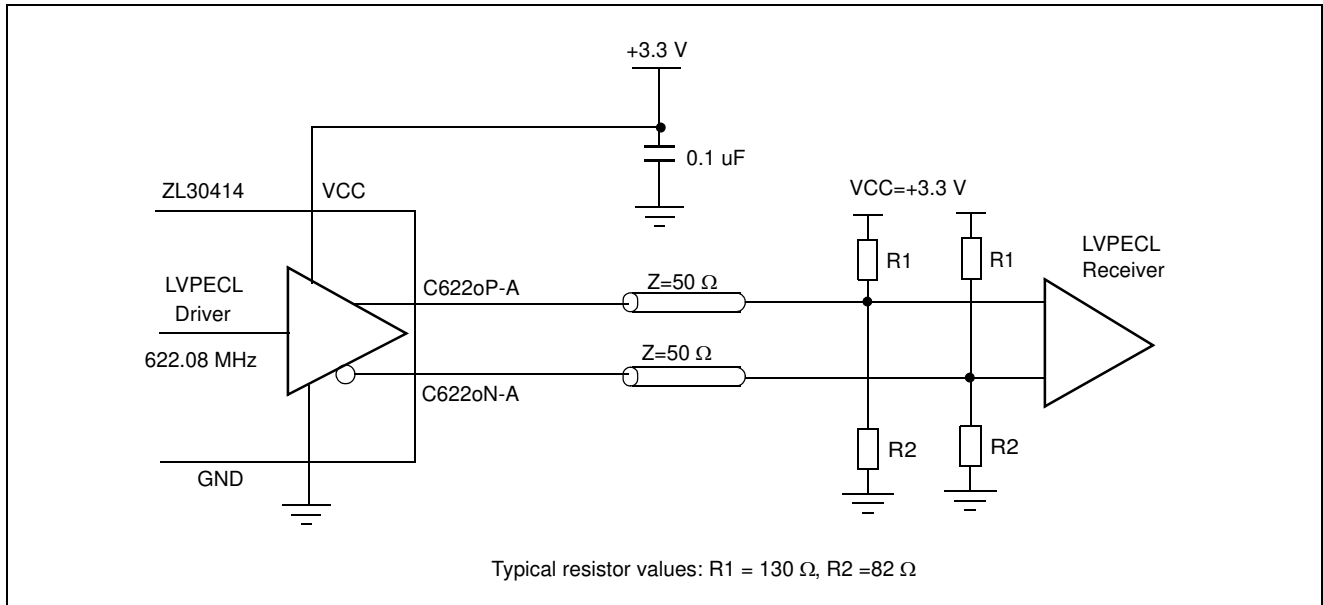

Figure 8 - LVPECL to LVPECL Interface
- Note 2: LVPECL outputs terminated with $Z_T = 50\ \Omega$ resistors biased to $V_{CC}-2\text{V}$ (see Figure 8)